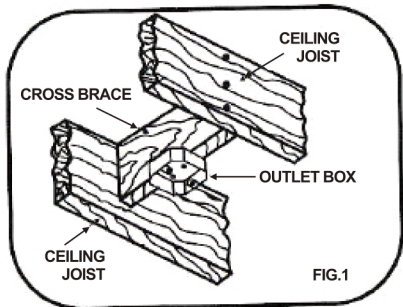

FIG.1
3.For installing to outlet box, secure the outlet box directly to the building structure. Use appropriate fasteners and building materials. The outlet box and its support must be able to fully support the moving weight of the fan(at least 100lbs). Use a UL listed metal outlet box. Do not use a plastic outlet box. Figure 1& 2 examples to mount the outlet box.